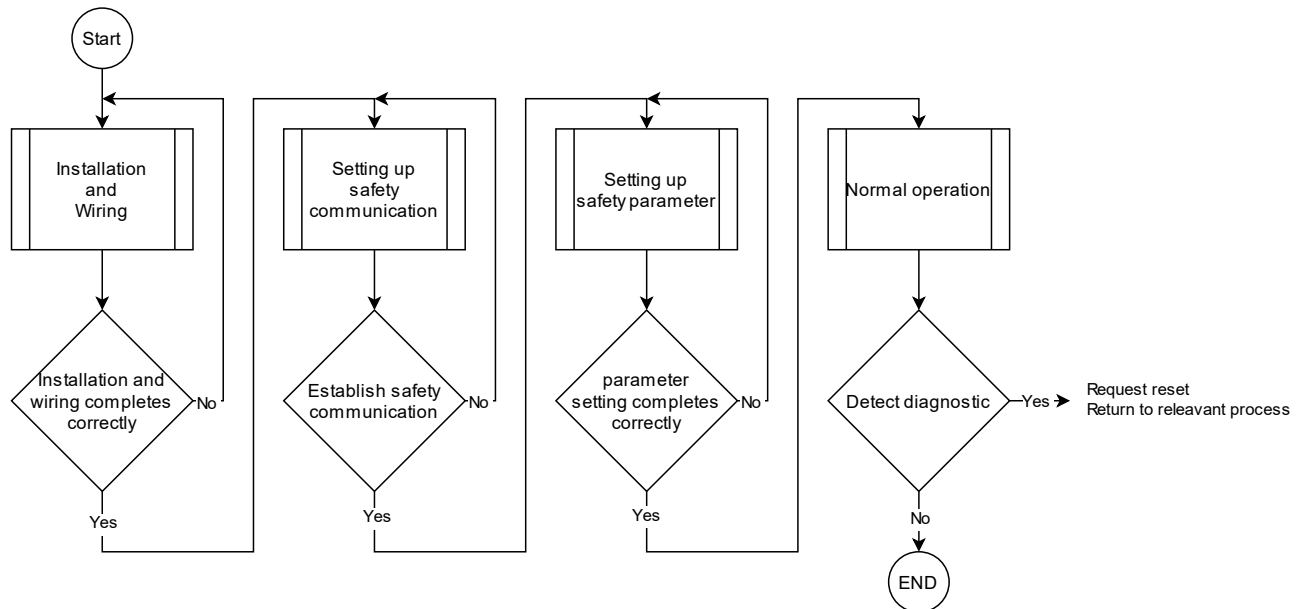

Fig. 4.1-1 Flow chart
Configure the module according to the procedure in Fig. 4.1-1. When a diagnosis is detected, return to the relevant process. The user must always check that the valve manifold is operating as intended.
- Please check Fig. 4.1-1 and 6.2 Troubleshooting when performing maintenance as necessary.